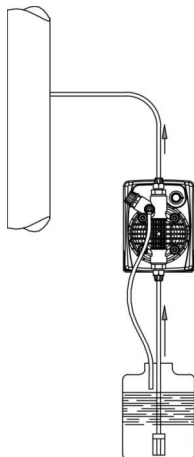
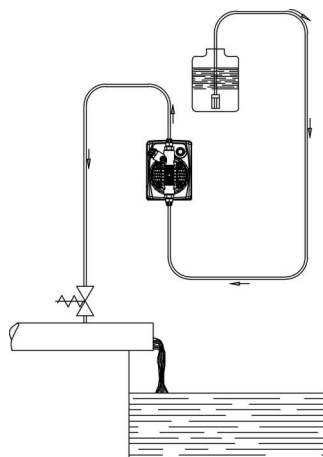

Fig. 5
Fig. 6
c.- Install the pump in any way as shown in Fig. 5. If installed above the chemical tank, it is important that the pump height should not exceed the rated suction height, over the level of the chemical. When the process plant in which the pump is installed is operating at atmospheric pressure (no back pressure) and the chemical tank is situated above the plant (Fig. 6), the condition of the injection valve should be checked at regular intervals, because excessive wear and tear could cause additive to drip into the plant even when the pump is shut down. If the problem persists, install a properly calibrate counter-pressure valve (C) between injection point and the valve. In the case of liquids that generate aggressive vapours, do not install the pump above the storage tank unless the latter is hermetically sealed.